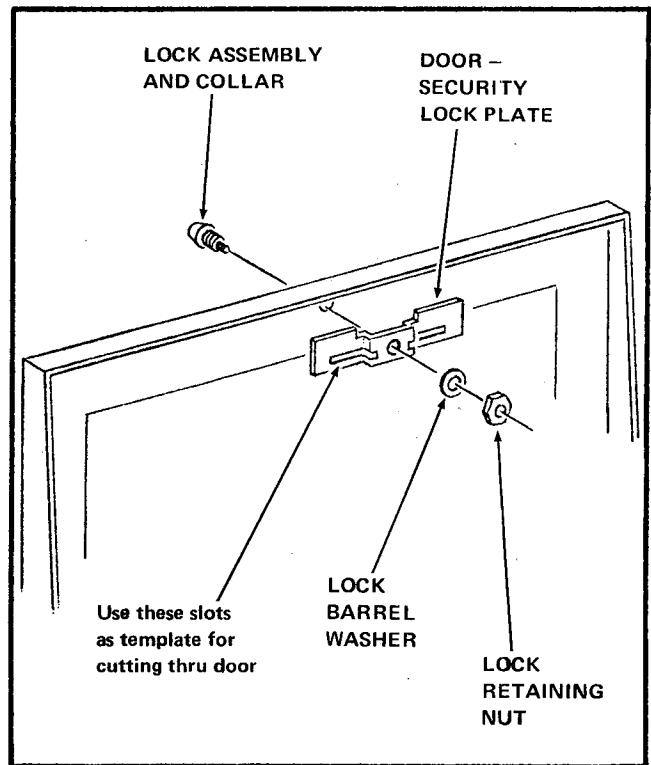

Figure I-3
11. Place the Security Lock Door Plate part number 222-0509 on the Lock Assembly. See Figure I-3.
7. Place the Security Lock Door Plate, part number 222-0509 on the Lock Assembly. See Figure I-3.